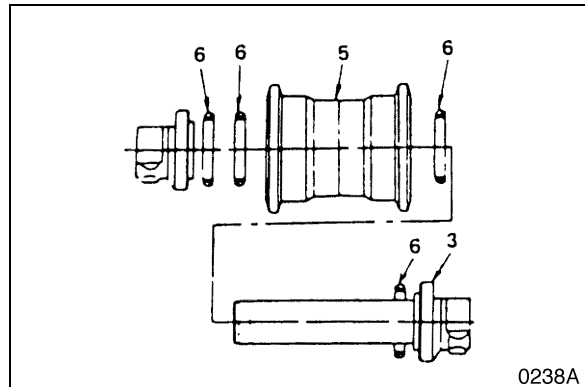

Figure 35
4. Insert group seals (6, Figure 35) into the roller (5) and collar (3).